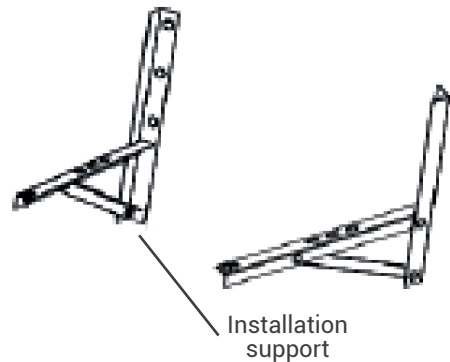

Fig.10
- If installation brackets for installing outdoor unit are needed, user could buy the brackets from our company or agents (Fig. 10)